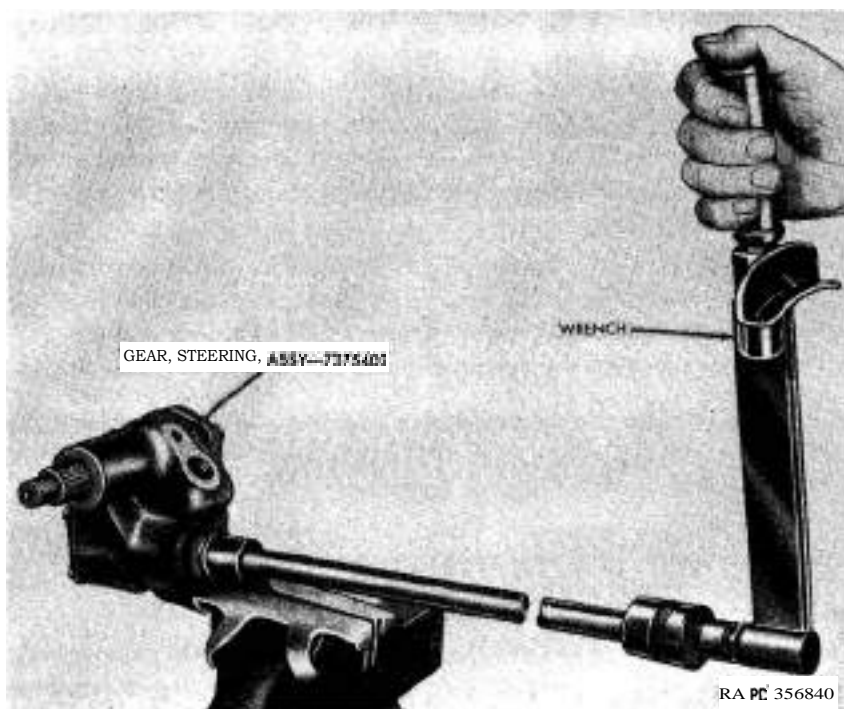
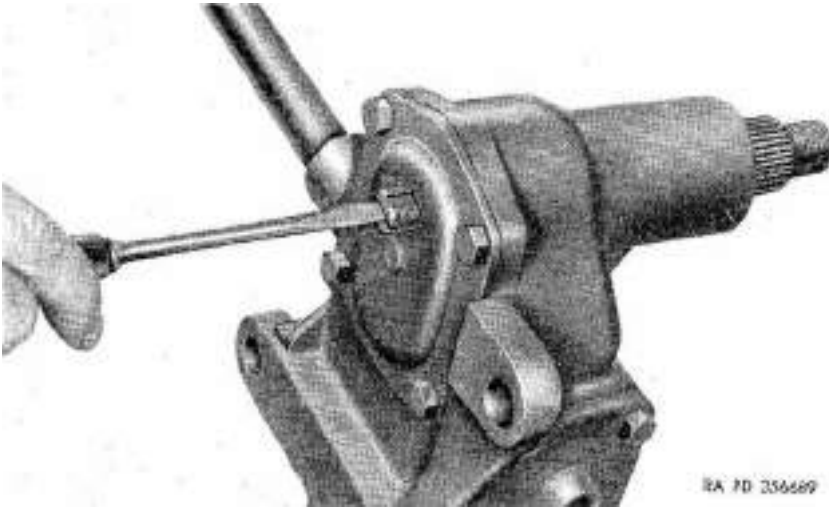

Figure 166. Checking preload of worm roller bearings with torque indicating wrench.
Figure 167. Adjusting backlash between worm and pitman arm shaft sector.
Check preload of worm bearings by rotating column shaft with a torque indicating wrench (*fig. 166*) . Add, change, or remove housing lower cover shims until bearing preload conforms to the specifications in paragraph 349. Read torque indicating wrench while wrench is in motion to obtain accurate results.
- (2) Turn pitman arm shaft adjusting screw (G) out to increase backlash and in to decrease backlash (fig. 167) . With worm positioned so that high spot is in contact with sector of pitman arm shaft, turn adjusting screw in until a drag is apparent as sector is moved across the high spot. Check drag with a pound-inches torque indicating wrench (fig. 166) and turn adjusting screw until drag conforms to the specifications in paragraph 349. Install pitman arm shaft adjusting screw lock plate (C) and make certain it indexes with button on housing cover. Install pitman arm shaft adjusting screw nut (B) and tighten.